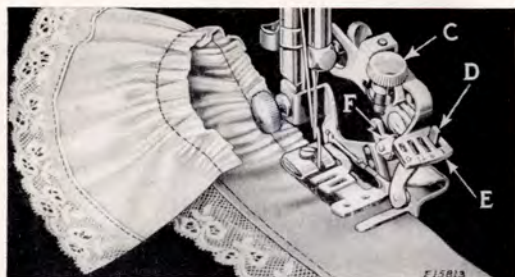

FIG. 55
Raise the needle bar to its highest position and remove the presser foot. Attach the ruffler foot (A, Fig. 54) to the presser bar by means of the thumb screw, at the same time placing the fork arm (B, Fig. 54) astride the needle clamp as shown in Fig. 55.
The adjusting finger (F, Fig. 55) is not intended for gathering and should be moved forward or away from the needle, as shown in Fig. 55.
Raise the adjusting lever (E, Fig. 55) and move it to the left so that the projection (D, Fig. 55) will enter the slot marked "1" in the adjusting lever (E) when the lever is released. The ruffling blade will then move forward and back once at every stitch. Insert the material to be ruffled between the two blue blades, following the line 2 in Fig. 54. Draw the material slightly back of the needle, lower the presser bar and commence to sew.
To make fine gathering, shorten the stroke of the ruffling blade by turning the adjusting screw (C, Fig. 55) upward; also shorten the stitch. To make full gathering, lengthen the stroke of the ruffling blade by turning the adjusting screw (C) downward; also lengthen the stitch. By varying these adjustments, many pleasing varieties of work can be accomplished.